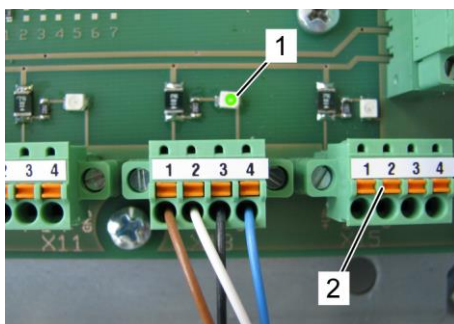

Fig. 114: Terminal box
2. Open the Terminal box and check all connected terminals for the respective LED (Fig.114/1) being on.
3. If an LED is off remove the respective connector (Fig.114/2).
↳ The LED (Fig.114/1) must be on.